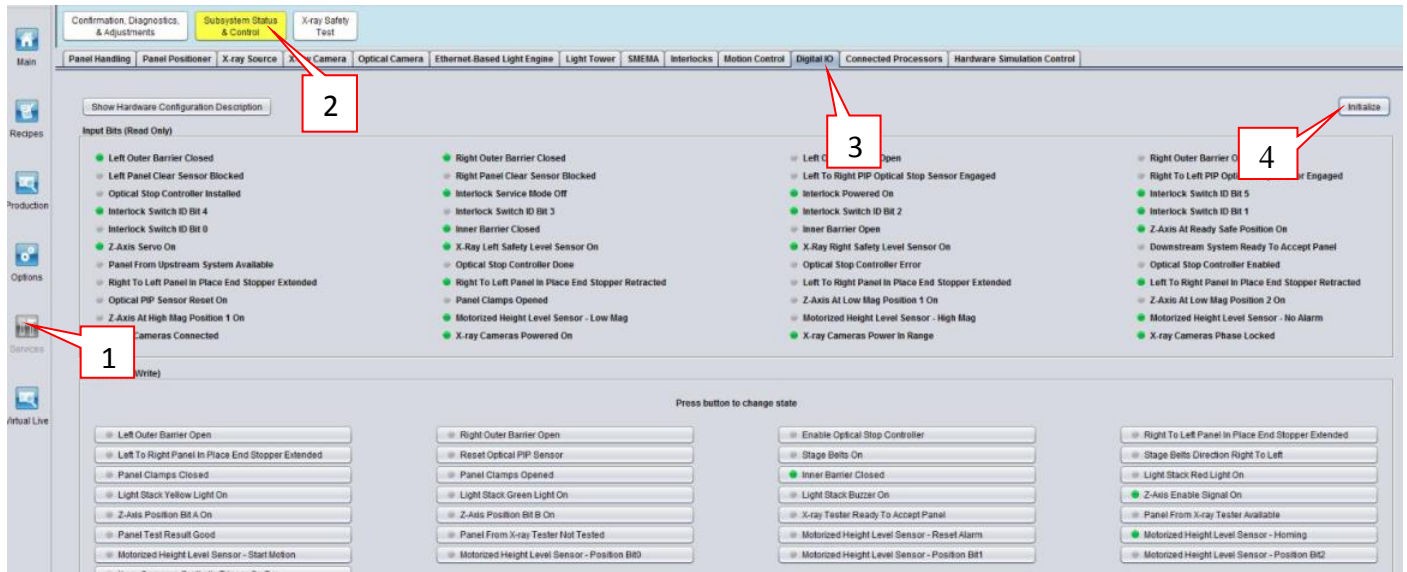

Figure 7 Digital IO
5. Go to Services > Subsystem Status & Control > Digital IO > Click “Initialize” as shown in Figure 7.